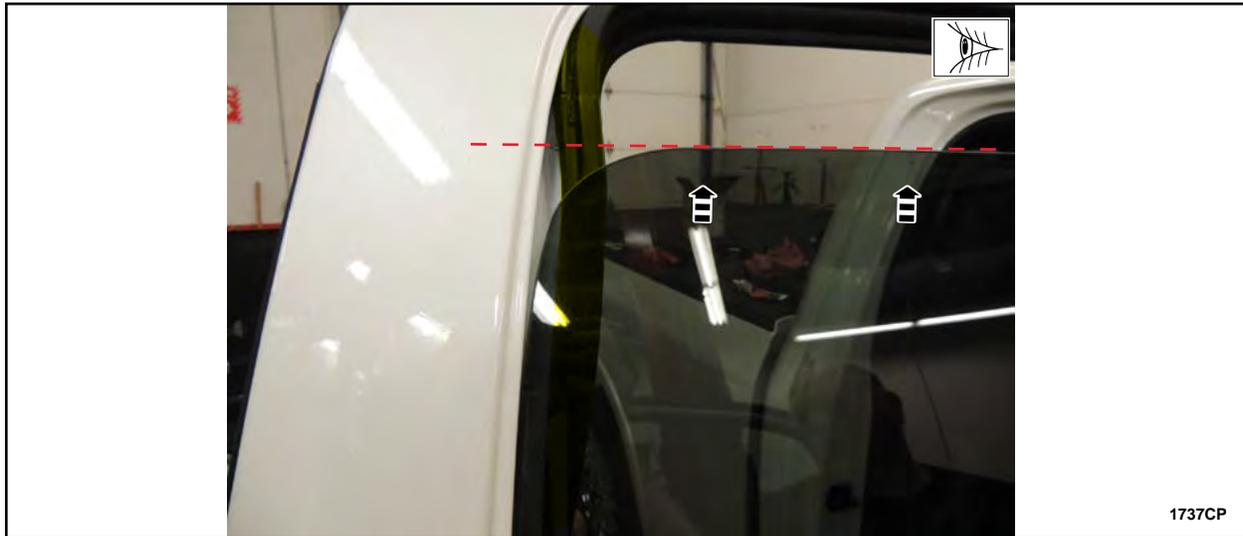

FIGURE 74
16. With the rear door latch side door glass top run still positioned aside raise the rear door window glass three quarters of the way up. See Figure 74.